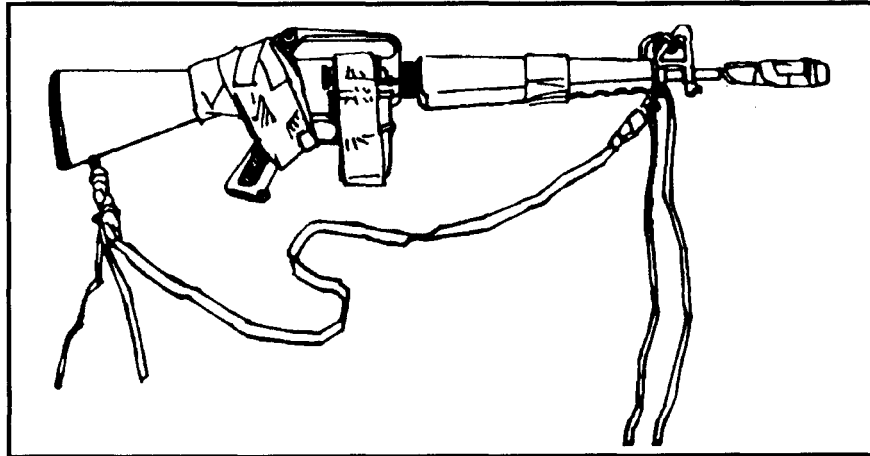

Figure 12-15. Tie-downs.
b. Further secure the weapon with two tie-downs of 1/4-inch cotton webbing (or a like item) with bowknots (Figure 12-15). Secure the sling to the diagonal back strap with the upper tie-down, which is a 12-inch tie strap. Secure the barrel of the rifle to the leg with a 24-inch strap to prevent possible entanglement with suspension lines. Remove the lower tie-down before landing to avoid personal injury.